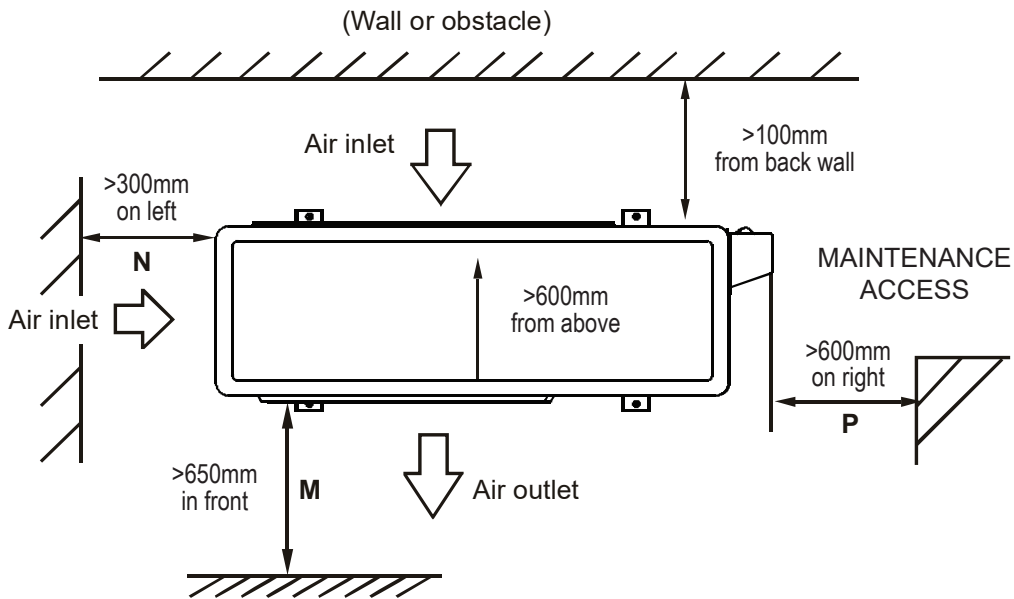

Figure 1.
- The minimum distance between the outdoor unit and walls/obstacles described in the installation chart does not correlate directly to installations in enclosed spaces. In these cases at least two of the three sides should remain open (M, N, P). Refer to "Figure 1." on page 16